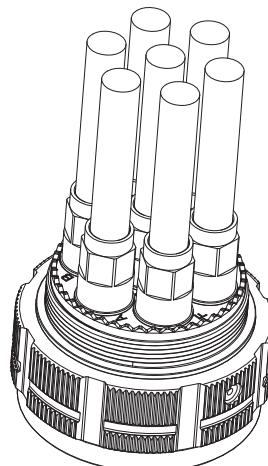

FIGURE 4
- D. Install any remaining SpeedMasters in the same manner. (Figure 4)